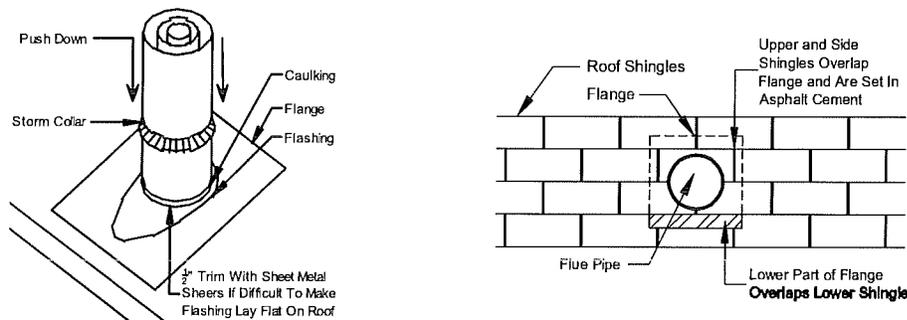

Figure 88. Roof flashing and shingle installation around chimney
5. **Complete shingles.** Cut shingles in successive courses to fit around the pipe and embed them in asphalt cement where they overlap the flashing. Secure shingles with roofing nails through flashing and apply asphalt cement over nail heads. The completed installation should appear as shown in Figure 88, with the lower part of the flange overlapping the lower shingles and the side and upper shingles overlapping the flange.